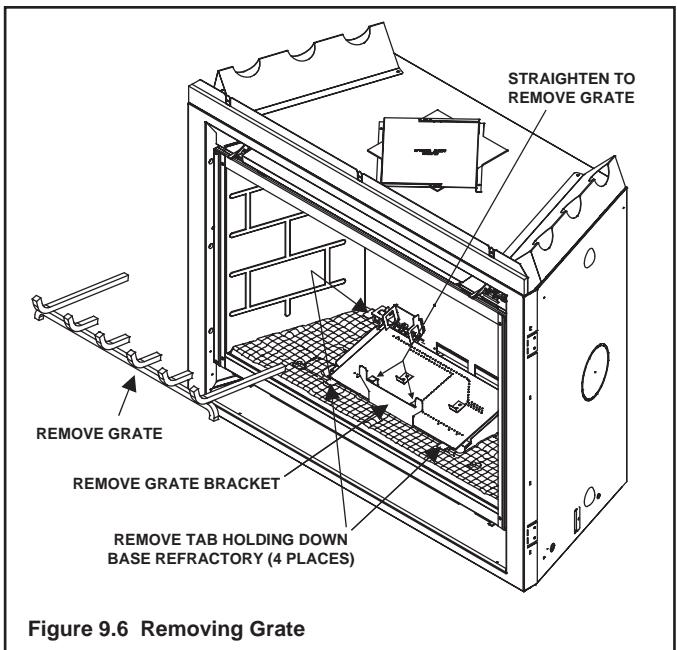

Figure 9.6 Removing Grate
1. Straighten the tabs on the grate bracket (see Figure 9.6) and remove grate from unit.
2. Remove grate bracket (see Figure 9.6) by bending it back and forth until it breaks. Discard grate bracket.
3. Remove 4 tabs holding base refractory (see Figure 9.6) by bending tabs back and forth until they break.